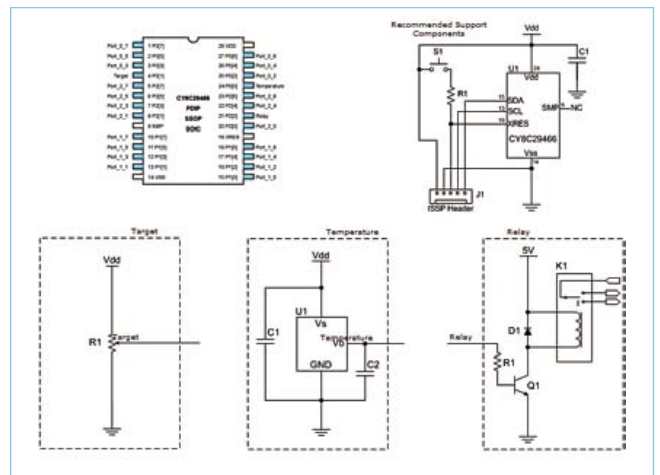
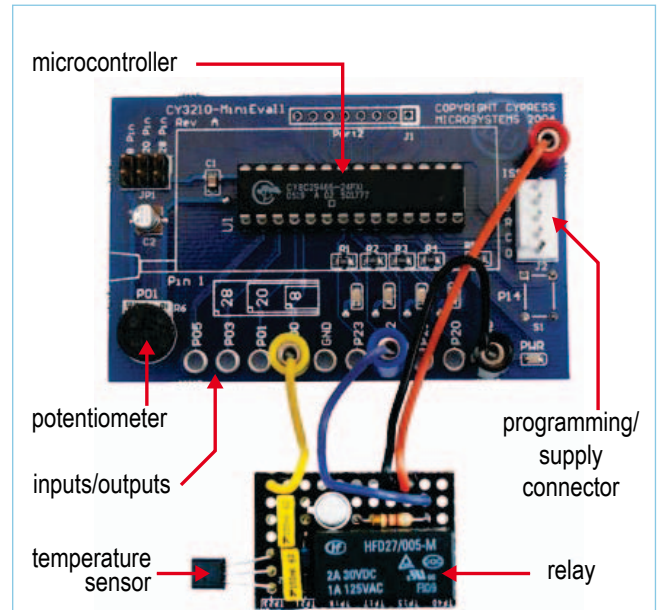

Figure 9. The circuit diagrams produced by PSoC Designer.
Figure 11. Construction using a CY3210-MiniEval1 board.
**Figure 9** shows the circuit diagrams produced by the software: the microcontroller itself with its pin-out, the wiring to be done in the event of in situ programming, and the circuit diagrams for the input and output devices.
**Figure 11** shows the thermostat built using the CY3210-MiniEval1 board. The thermostat functions are divided between the development board (microcontroller and its programming/power interface, potentiometer for setting the temperature) and a specially-made add-on board ("Temperature" and "Relay" functions from **Figure 9**). The 5 V supply for the whole project is provided by the MiniProg programmer, not shown in this photo.